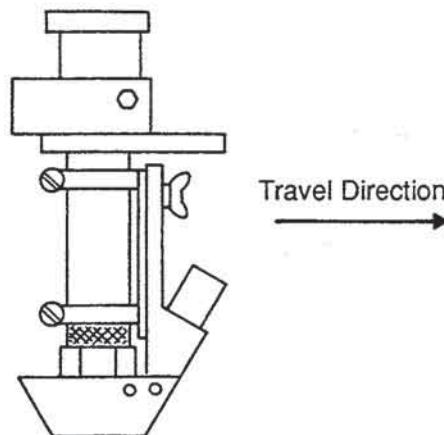

Figure 2
7. Position the moving member to the desired height of flux coverage and tighten the wing screw into the top tapped hole. See Figure 2.
1. Be sure nut (H) is tight. Drive out roll pin (G).
2. While holding the head, loosen nut (H) and lower the head (F) from the head support (E).
3. Loosen the nut (K) on the draw bolt (L); now remove the stationary mount (E), (not shown in Fig. 2).
4. Slide the clamp ring (A) over the end of the mounting bracket (M).
5. Drive the 1/4" (6.3 mm) roll pin (B) into clamp ring (A) when the hole in the ring lines up with the groove in the mounting bracket (M).
6. Tighten clamp ring (A) with the open slot in the up position, using the 1/2" (12.7 mm) clamping bolt (C).
7. Slide the vertical head adjustment unit (E') into the mounting bracket (M). Tighten the draw bolt nut (K).
8. Install one adjustable clamp (D) on each side of the clamp ring (A).
10. Raise the welding head (or horizontal adjuster) back into position on the up and down lift shaft (N). Drive the 5/16" (7.9 mm) roll pin (G) back into its original position.
11. Tighten draw bolt nut (H).